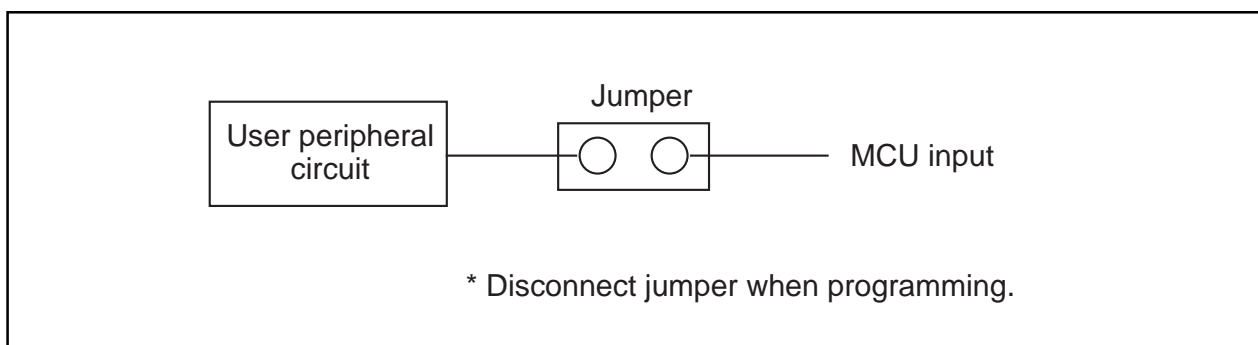

Fig. 4.2: Collision Prevention Circuit Using Jumper
(2) An example of a collision prevention circuit when user peripheral circuit outputs is shown in Fig. 4.2.